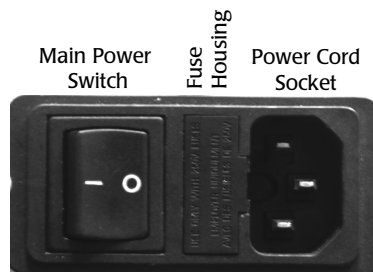

Fig. 65—Unplug the power cord to access the fuse housing release.
A spare fuse is provided in the fuse housing (Fig. 65).
1. Turn the main power switch off (I).
2. Unplug the power cord from the power cord socket on the back of the **AirTherm** (Fig. 65).